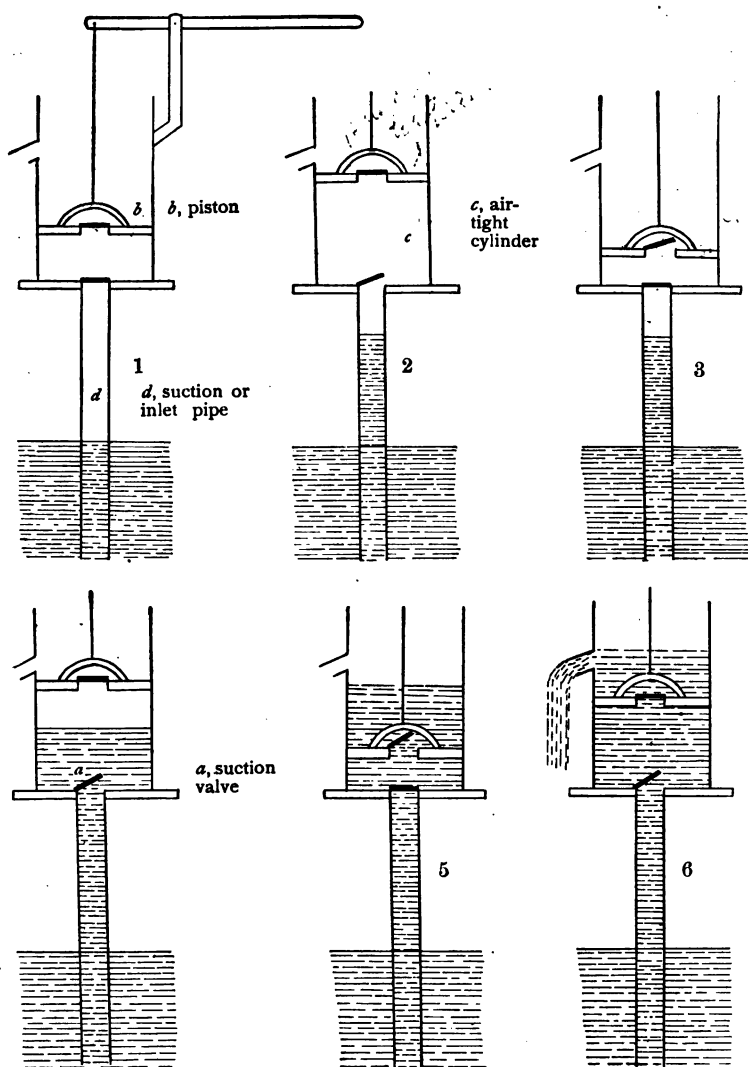

FIG. 133. — Diagram of the process of pumping.
In order to understand the action of a pump, we will suppose that no water is in the pump, and we will pump until a stream issues from the spout. The various stages are represented diagrammatically by Figure 133. In (1) the entire pump is empty of water but full of air at atmospheric pressure, and both valves are closed. In (2) the plunger is being raised and is lifting the column of air that rests on it. The air and water in the inlet pipe, being thus partially relieved of downward pressure, are pushed up by the atmospheric pressure on the surface of the water in the well. When the piston moves downward as in (3), the valve in the pipe closes by its own weight, and the air in the cylinder escapes through the valve in the plunger. In (4) the piston is again rising, repeating the process of (2). In (5) the process of (3) is being repeated, but water instead of air is escaping through the valve in the plunger. In (6) the process of (2) is being repeated, but the water has reached the spout and is flowing out.